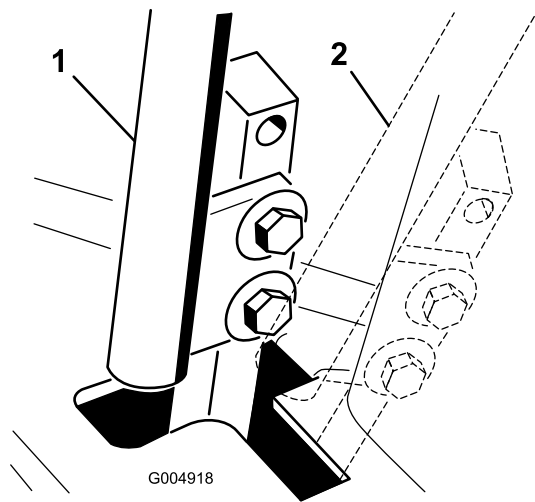

Figure 51
4. Move the control lever to the NEUTRAL position but **not locked** (Figure 51).
6. Check where the control lever is relative to notch in the console (Figure 51).